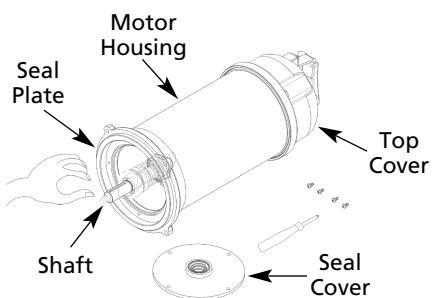
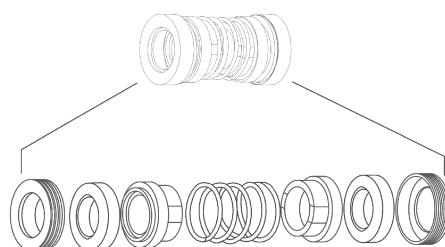

Figure 14
Figure 15 – Mechanical Seal Assembly
3. To expose the mechanical seal for examination, use the same procedure as for the oil seal. First, unscrew the seal cover (Figure 14) by unscrewing the 4 screws on the top, and take off the seal cover and o-ring. Remove the mechanical seal (Figure 15) from the shaft. Examine all mechanical seal parts and especially contact faces. Inspect seal for signs of wear such as uneven wear pattern on stationary parts and chips or scratches on the mechanical seal face. Do not interchange mechanical seal components (Figure 15). Replace the entire mechanical seal and o-ring when damage is evident.
- To expose the mechanical seal for examination, use the same procedure as for the oil seal. First, unscrew the seal cover (Figure 14) by unscrewing the 4 screws on the top, and take off the seal cover and o-ring. Remove the mechanical seal (Figure 15) from the shaft. Examine all mechanical seal parts and especially contact faces. Inspect seal for signs of wear such as uneven wear pattern on stationary parts and chips or scratches on the mechanical seal face. Do not interchange mechanical seal components (Figure 15). Replace the entire mechanical seal and o-ring when damage is evident.